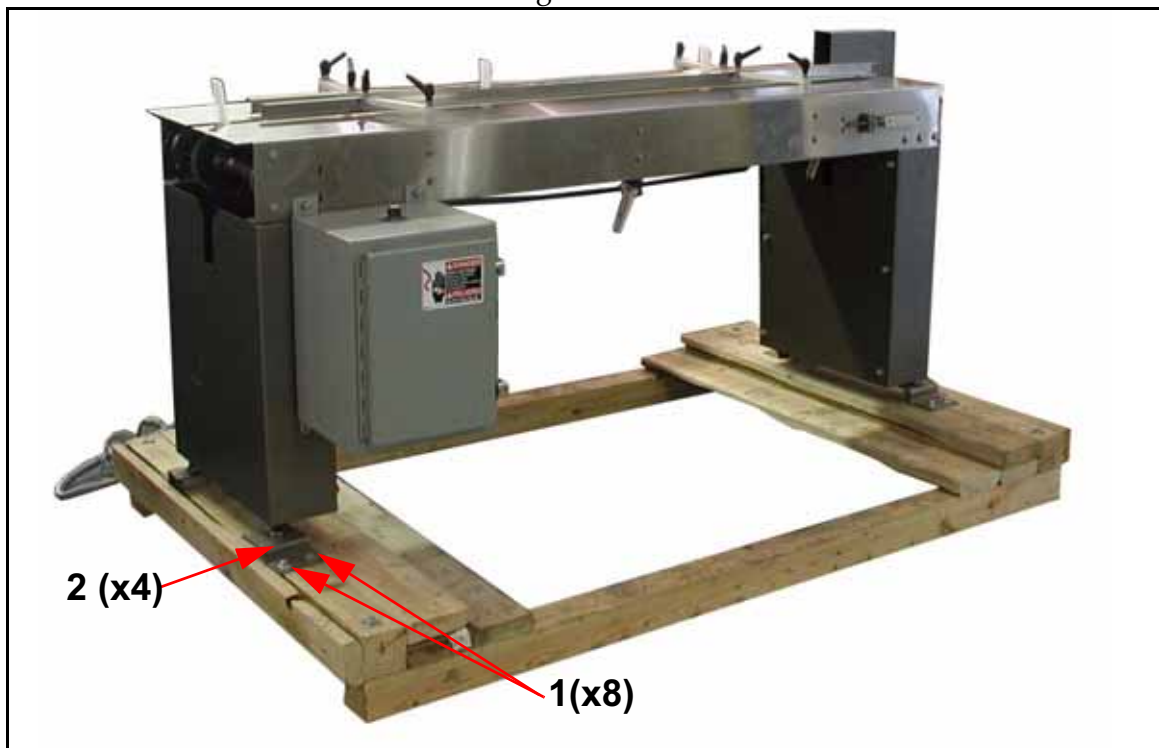

Figure 4-17. Conveyor on Crate Base
- 1 Unscrew mounting bolts (1 in Figure 4-17) and remove mounting clamps (2).